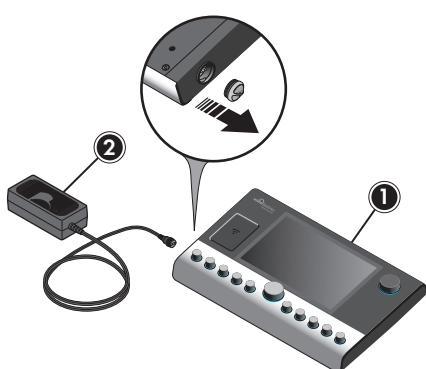

Fig. 53: Connecting the control unit
1. ➤ Remove the connector cover of the electrical connection on the control unit (Fig. 53/1). Connect the magnetic plug of the power supply unit (Fig. 53/2) into the magnetic socket of the control unit.
2. ➤ *i* When connecting the power cable (Fig. 53/2), make sure the magnetic plug connection is safely locked in place.
Connect the power cable to the power supply unit (Fig. 53/2).